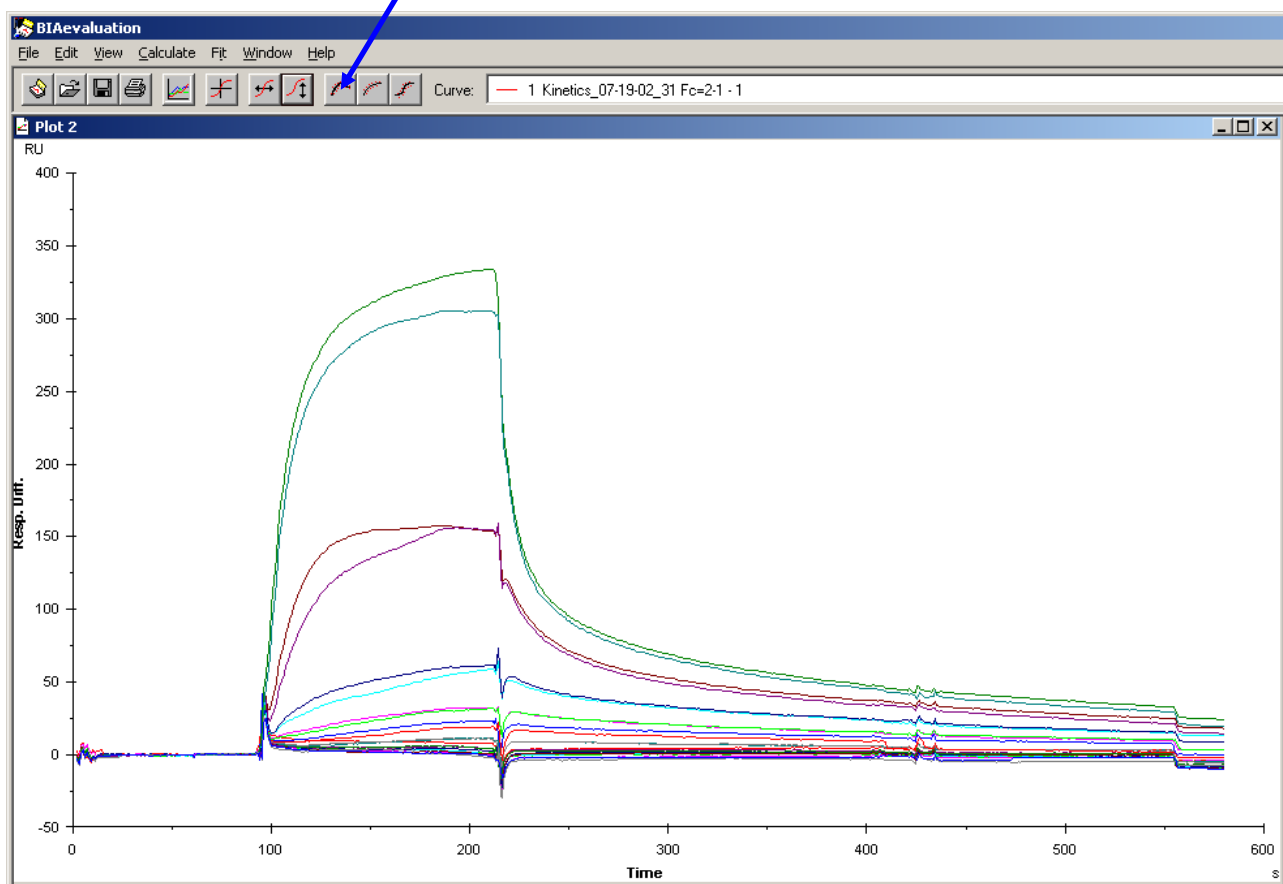

Figure 6.8
- 6.23 Window shown in fig 6.8 with sensorgrams normalized on the Y- axis will open.
- 6.24 Click on 'Fit Kinetics, simultaneous  $k_a/k_d$ ' button (Fig 6.8).